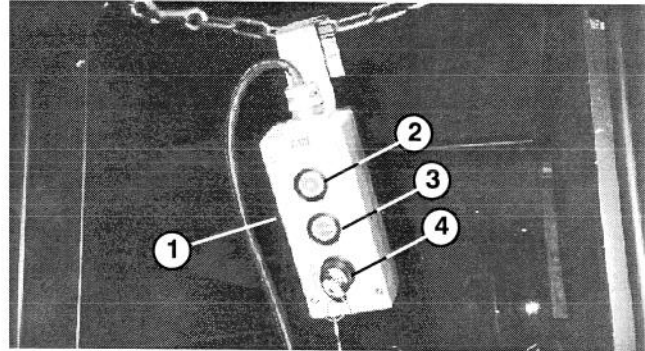

Figure 13
4. While standing next to machine, grasp pendant control (Fig. 13) and rotate lift key switch to "ON" position. Check overhead clearance and for any obstructions.